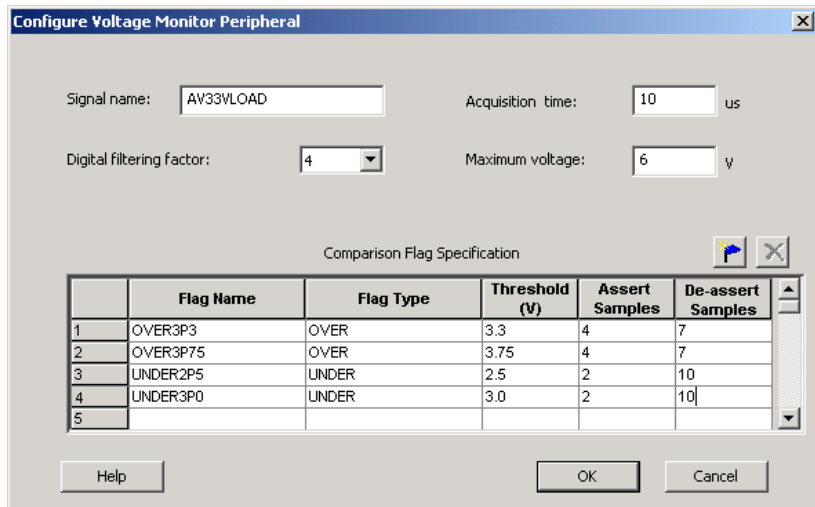

Figure 1-9. Voltage Monitor Configuration
- Select **Voltage Monitor** and configure the Voltage Monitor peripheral as shown in Figure 1-9 on page 15.
- Enter the threshold flag values for Voltage Monitor AV33V as shown in Table 1-3 and Figure 1-9.